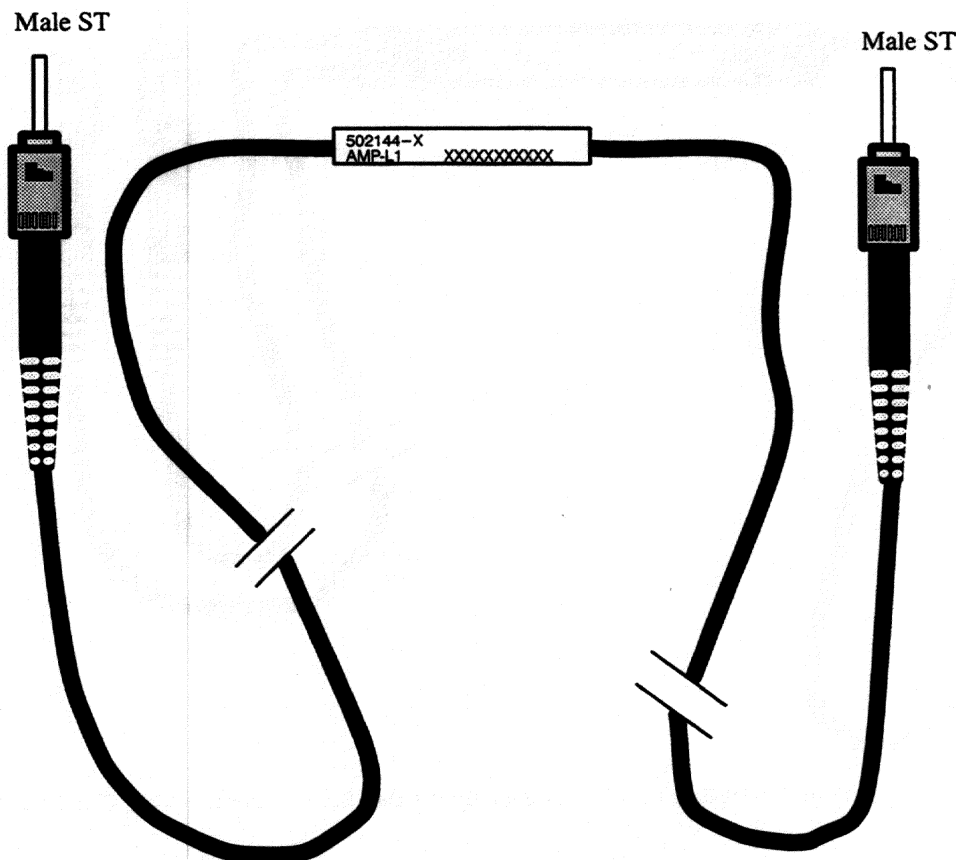

Figure 6-14 Multi-Mode Fiber Optic Cables (Black), Male ST to Male ST.
1. *Multi-Mode Fiber Optic Cable.* Figure 6-14 illustrates multi-mode fiber optic cables. The cable and its two male ST connectors are all black and are equivalent to AMP's cable labeled AMP-L1, 502144-X, where X indicates the metric length of the cable. (Referred to as "X" in cable diagrams beginning with Figure 6-21.)